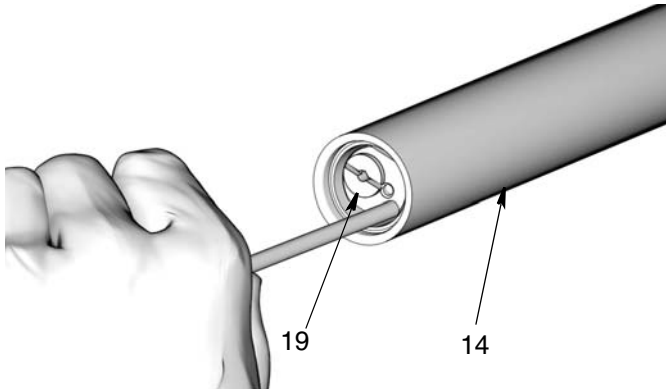

FIG. 26
23. Use a smooth, long brass or aluminum rod, free of sharp edges and burrs, to push the check valve assembly (19) out of the outlet tube (14) (FIG. 26).